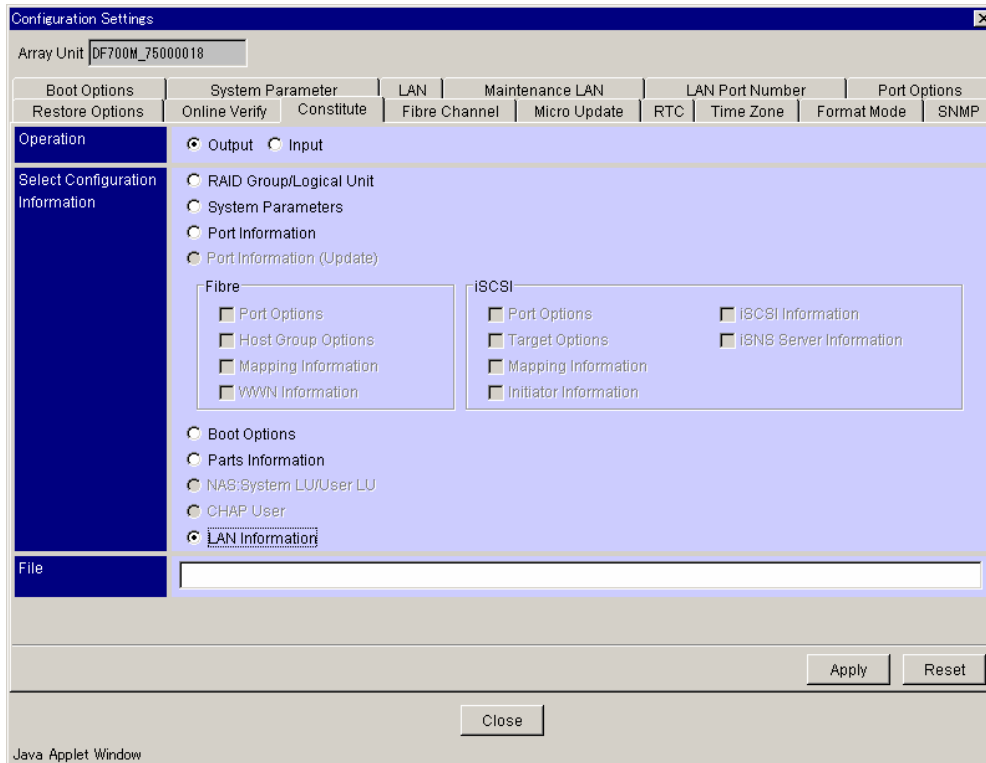

Figure 9.37 Configuration Settings window (output)
2. Click the **Constitute** tab. See Figure 9.37.